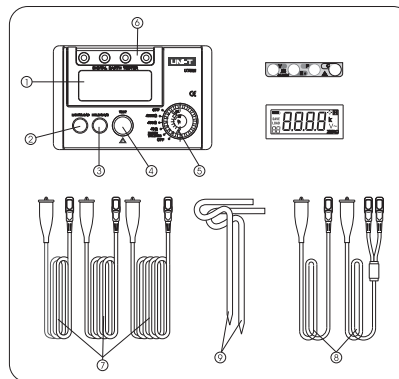

Figure 1
4. Tester Structure & Accessories (Figure 1)